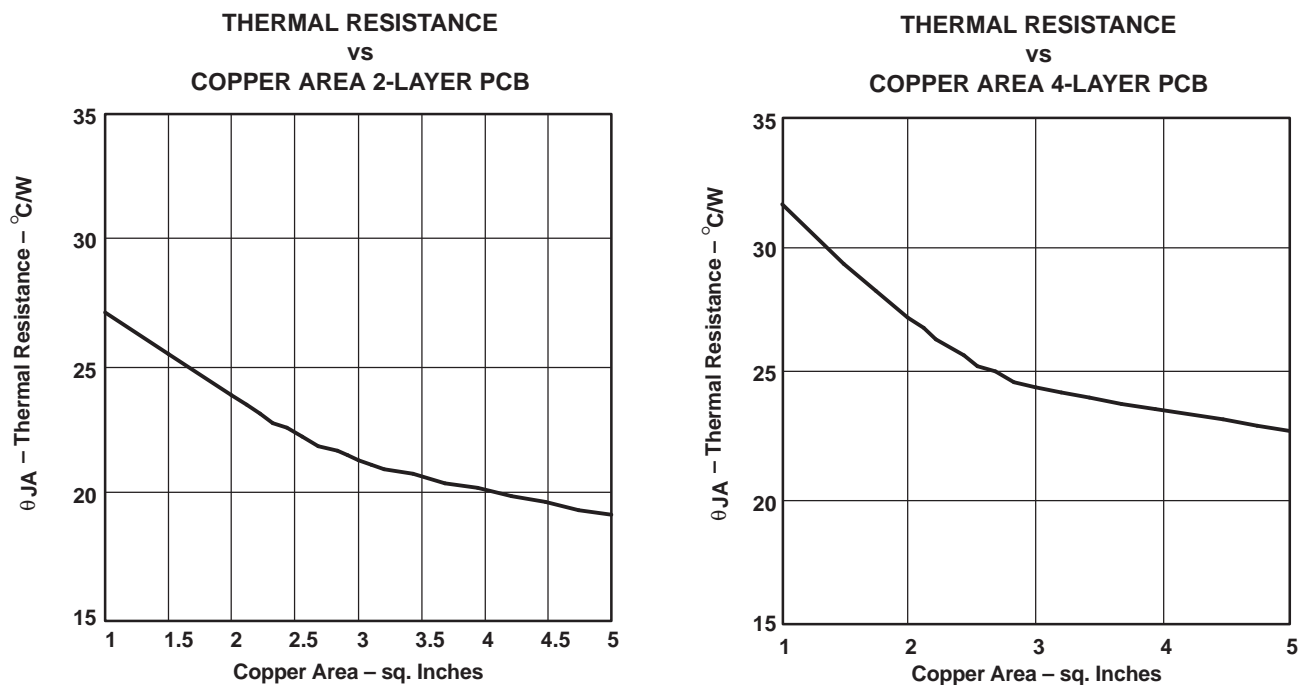
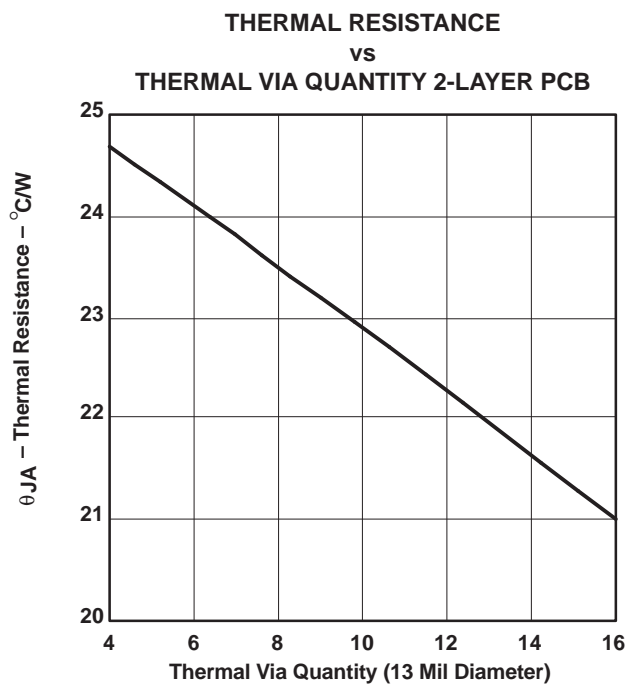

Figure 47. Thermal Resistance
Figure 48. Thermal Resistance
$\theta_{\text{JA}} = 19^\circ\text{C/W}$ 2-Layer PCB, 5 sq. in. copper, see Figure 47. (8)
Figure 47 and Figure 48 show the results of several thermal experiments conducted with the TPA3004D2. Both figures show that the best thermal performance can be achieved with more copper area for heat dissipation and an adequate number of thermal vias.
Figure 47 shows two curves for a 2-layer and 4-layer PCB. The 2-layer PCB layout was tightly controlled with a fixed amount of 2 oz. copper on the bottom layer of the PCB. The amount of copper is shown on the x-axis. Nine thermal vias of 13 mil (0.33mm) diameter were drilled under the PowerPad and connected to the bottom layer. The top layer only consisted of traces for signal routing.
Figure 48 shows the effect of the number of thermal vias drilled under the PowerPad on the thermal performance of the PCB. The experiment was conducted with a 2-layer PCB and 3 square inches of copper on the bottom layer. For the best thermal performance, at least 16 vias in a 4x4 pattern should be used under the PowerPad. Refer to the TPA3004D2 EVM User's Manual, SLOU115, for an example layout with a 4x4 via pattern. PCB gerber files are available at request.